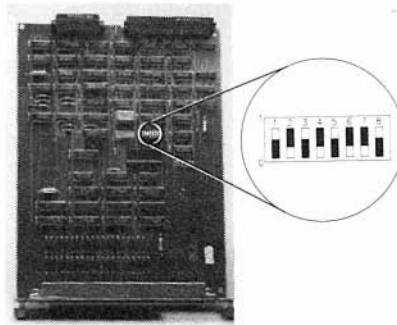

Figure 5-26: HP 98726A Interface Switches
- a. The default settings for the address switches are shown in Figure 5-26.